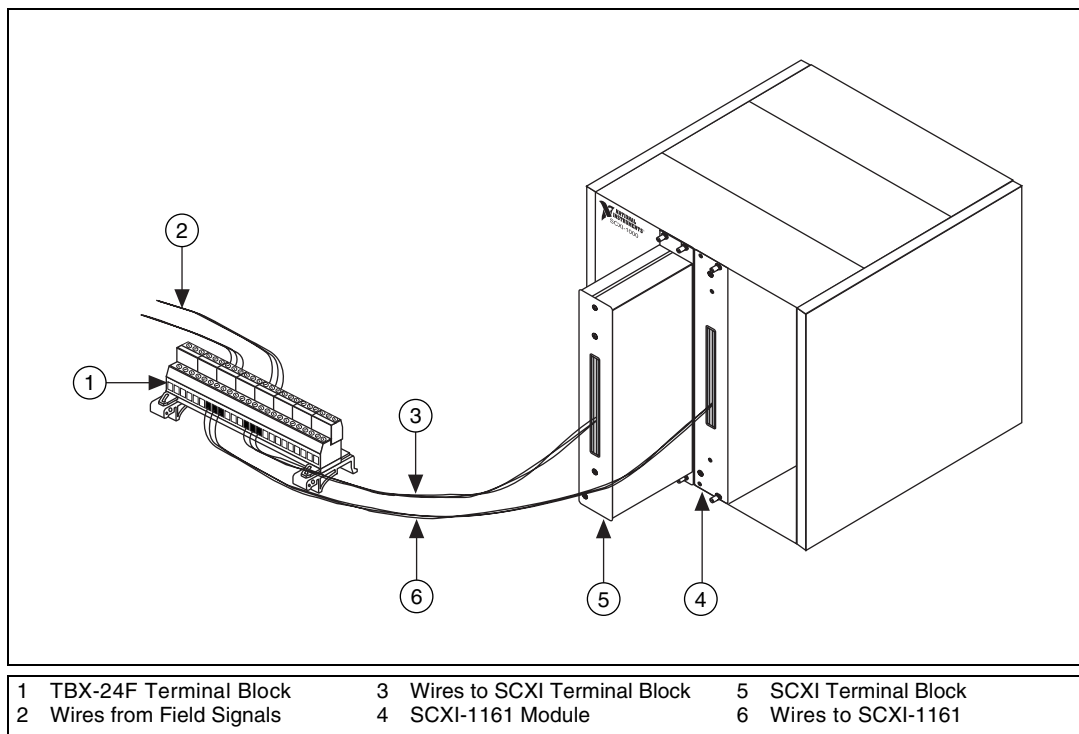

Figure 1. TBX-24F Terminal Block Connection
Refer to the SCXI module user manual for examples of how to connect field signals and loads. Figure 1 shows the TBX-24F connected directly to an SCXI-1161 module and connected to another SCXI module using a terminal block. Follow these instructions to route the signals through the TBX-24F:
3. Connect the signal wires to the TBX-24F terminal plug that connects to the corresponding terminal for the SCXI module. Refer to Figure 1.